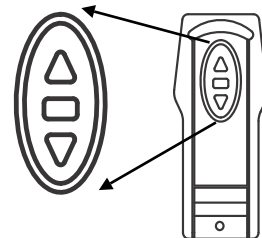

Figure 1.5: IR Remote
Infra Red (IR) Remote Operation (fig. 1.5)